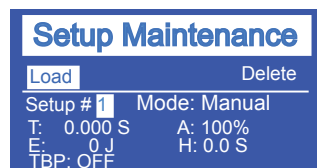

Figure 5-22 Default Setup Screen
4. Confirm that your setup has been saved in memory by going back to **SETUP**. Your new setup should appear, as it does in Figure 5-22.